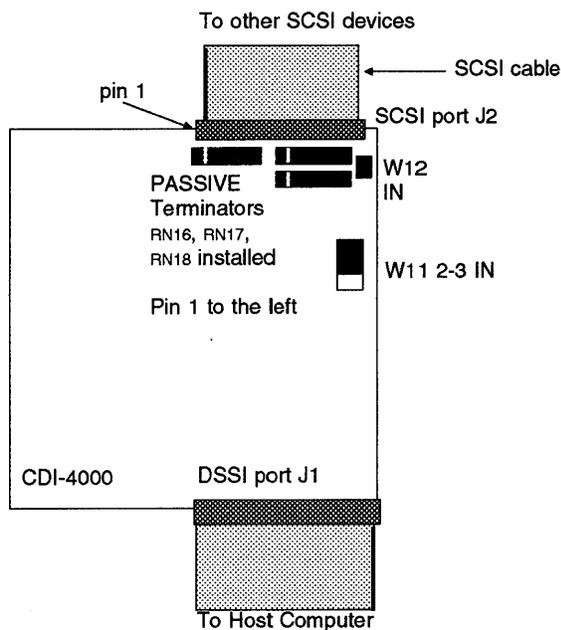

Figure 3-5: SCSI port passive termination
Put three (3) passive 220/330-ohm terminators in locations RN16, RN17, and RN18 (final numbers on the resistors must read 221331). Pin 1 of resistor must align with pin 1 of the socket shown by the white mark in the Figure 3-5).
Put jumper shunt in W12 (this allows for +5-volts to be sent to the external terminator at the end of the SCSI bus). See Figure 3-5.